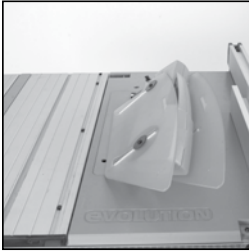

FIG. 9
- When satisfied that the blade guard works throughout the blades height adjustment range, check that the guard works equally well with the blade set to a bevel angle. **(Fig. 9)**